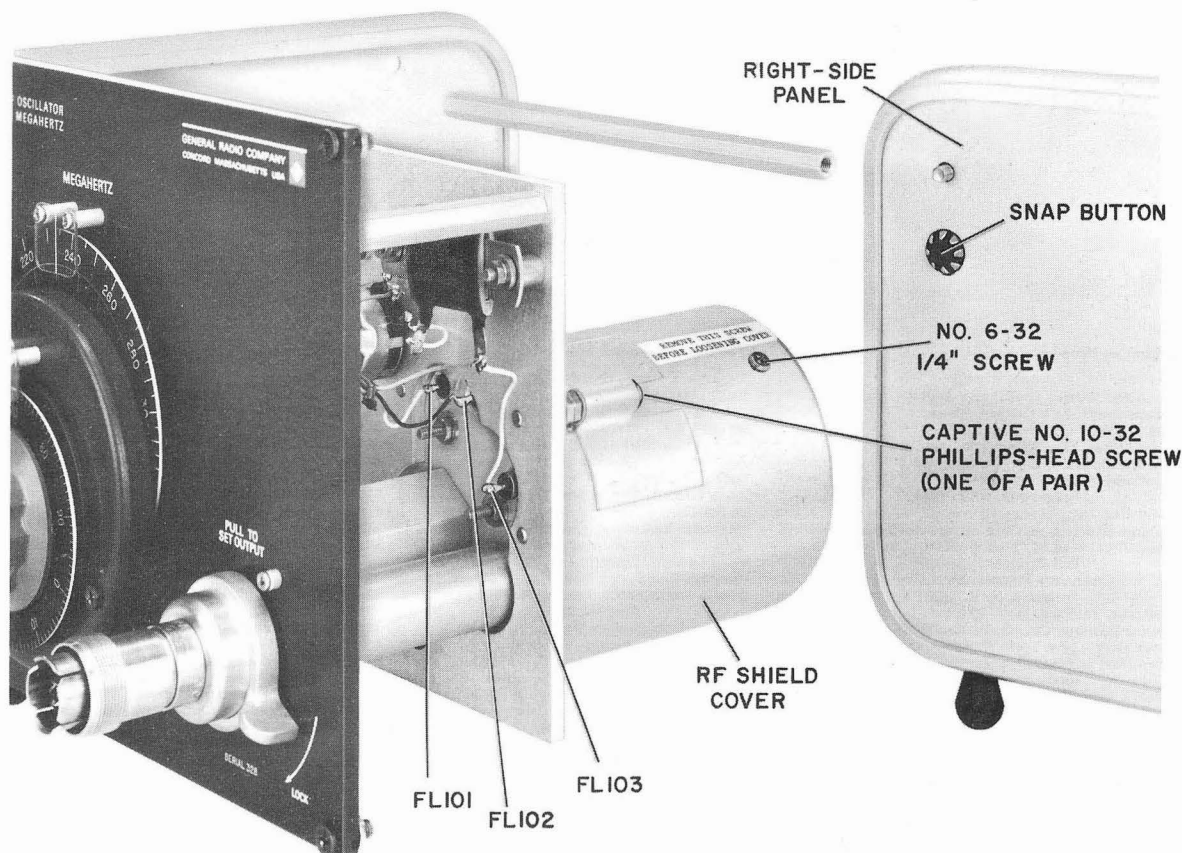

Figure 6-5. Interior right-side view with shield cover in place (right side of cabinet removed).
a. Remove the snap button from the right side of the instrument (Figure 6-5). This is done by pushing out the button from the inside with a blunt tool, such as the end of a small screwdriver handle.